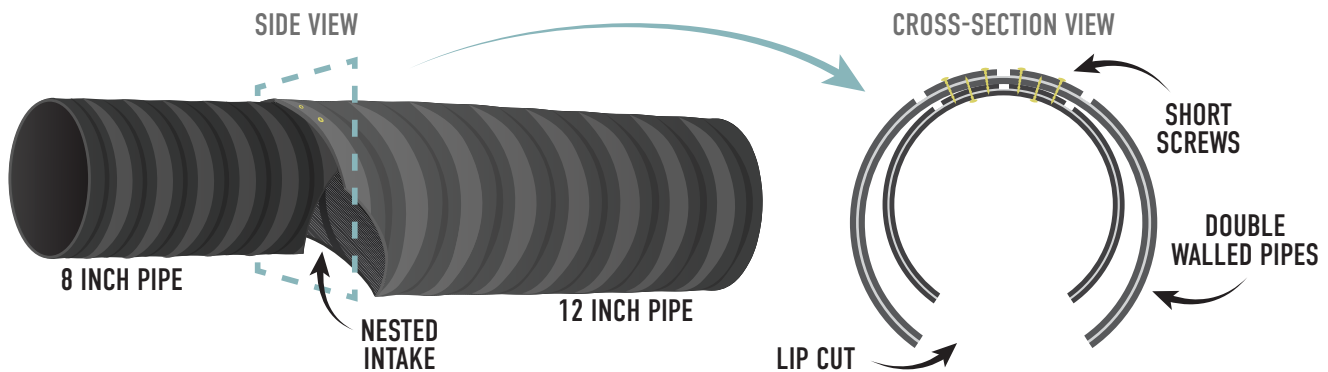

Figure 4. Nested pipe configuration used when constructing a dual-intake pond leveler.
16. Split the intake flow between the two intake cages by nesting an 8" double wall pipe into the mouth of a 12" double wall pipe (Figure 4).
18. Cut a half-circle out of the bottom lip of both the 8" and 12" intake pipes and secure the smaller pipe within the larger one, such that the opening area is roughly the same as the other intake (Figure 4). Use ceramic coated or stainless screws (no longer than necessary so as not to protrude into the interior of the pipe) and/or 9-gauge corrosion resistant wire. Products with zinc or copper should be avoided as these are toxic to aquatic life.